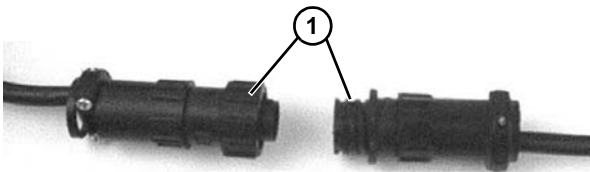

Figure 28
2. For variable speed motor, unplug cord at disconnect (Figure 28, item 1).